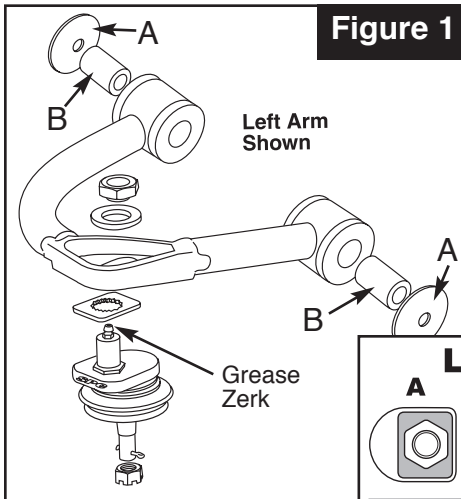

Figure 1
5. Using **SUPPLIED GREASE ONLY**, liberally coat the inside of all four SpecRide control arm bushings, making sure all small voids are filled with grease. Press a pivot sleeve (**#B-Figure 1**) into each bushing until it is flush with the outside of the bushing. This will push some grease out, which is normal. Use this grease to lightly coat the outboard ends of the SpecRide bushings where they will contact the included large washers. (**#A-Figure 1**).